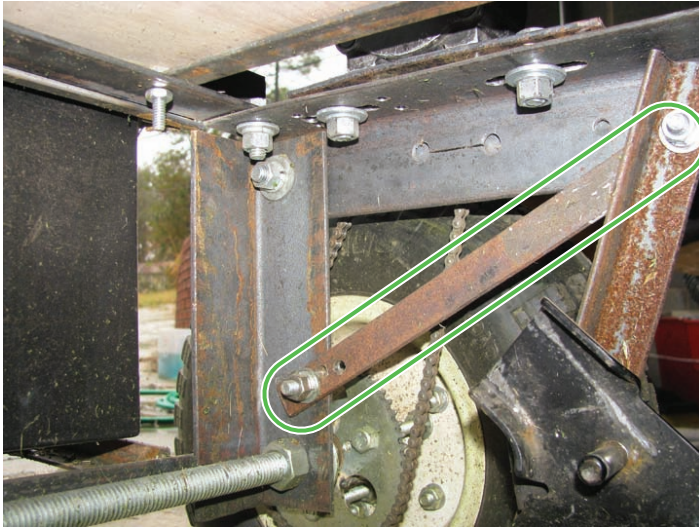

Figure 10-9. The support brace from the frame riser to the main frame rails
6. Mount the frame riser pieces. I drilled one hole at the top of each frame riser piece to bolt them into the main frame rails. When tightened, you can notice that the frame risers pivot without much force. To keep them in place, you need a support brace on each side of the frame, connecting the bottom portion of each frame riser to the main frame rails at another spot. This creates a triangle that when bolted no longer enables the rear frame riser pieces to pivot. These pieces do not have to be the exact same length because they simply hold the frame risers in place (see Figure 10-9).